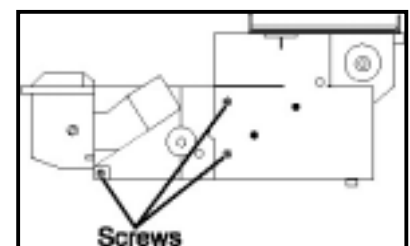

Figure 4
5. Remove 3 screws from right side (Fig. 4) & remove plate.